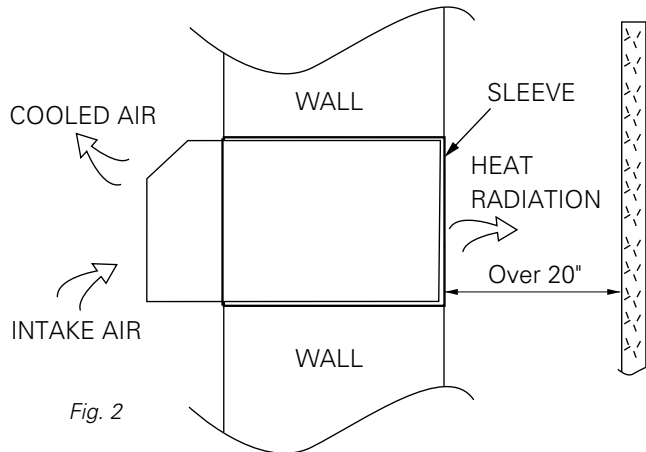

Fig. 2
- Dip switches are accessible without opening the control box. (See Fig.2)
- Pull out at the bottom to release it from the tabs (1).
- Then lift up (2).